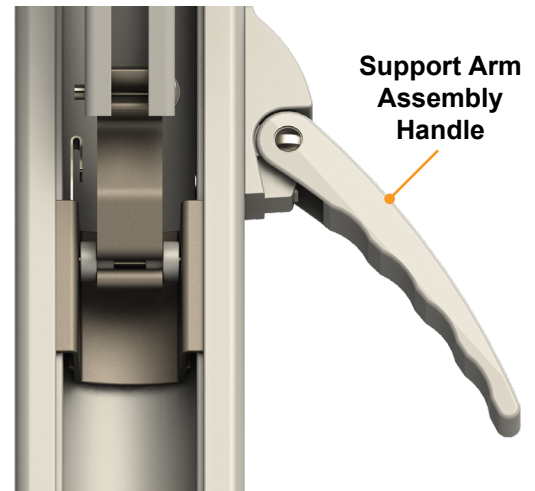
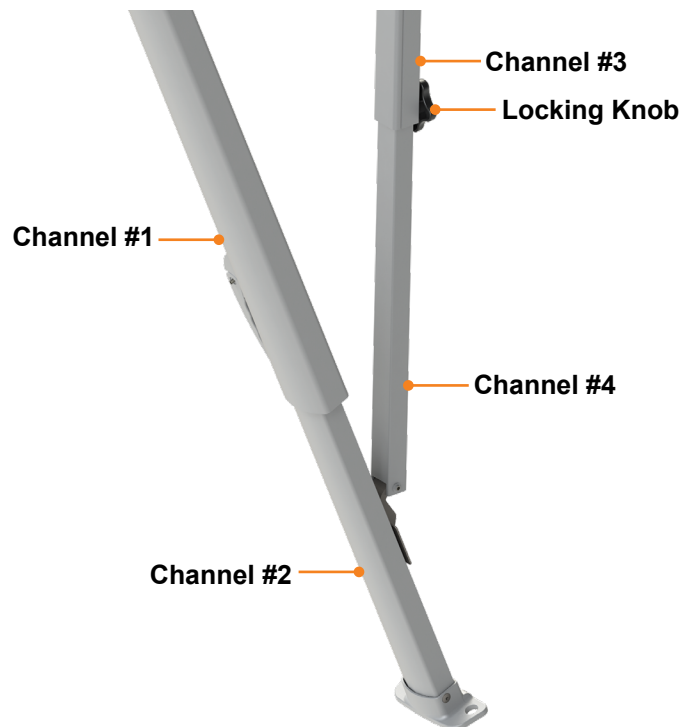
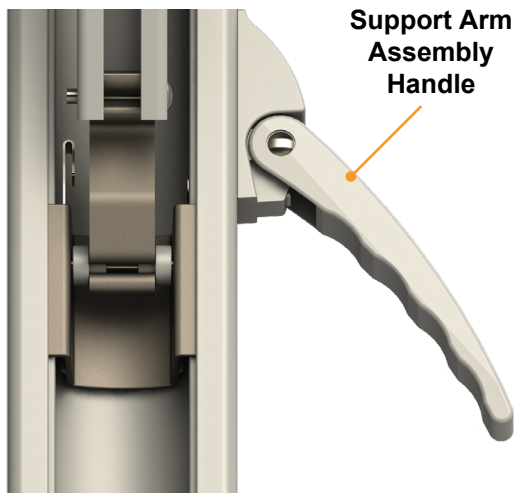
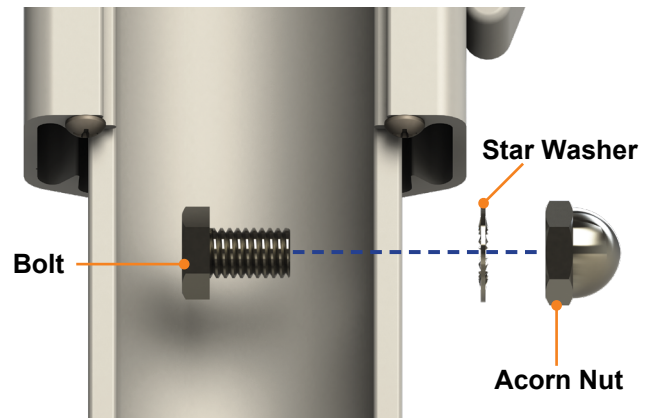

Fig.5
Fig.6
Fig.11
Fig.12
A. Open the support arm assembly handle (**Fig.5**) and slide the outer arm lower channel (**Fig. 6, Channel #2**) up or down to desired height.
B. Close the handle and slide the outer arm lower channel (**Fig. 6, Channel #2**) until the locking pin clicks into the nearest positioning hole.
B. Tighten the black locking knob on the mount arm upper channel (**Fig.6, Channel #3**).
NOTE: If adjustments are needed so the upper mounting brackets straddle the awning rail, loosen the black locking knob on the mounting arm's upper channel (**Fig.6, Channel #3**). Slide the mounting arm upper channel (**Fig.6, Channel #3**) up or down as needed over the mounting arm's lower channel (**Fig.6, Channel #4**).
- A. Open the outer arm handle (**Fig.11**) and slide the outer arm upper channel (**Fig.6, Channel #1**) up or down to the desired height.
- B. Close the handle and slide the outer arm upper channel (**Fig.6, Channel #1**) on the outer arm lower channel (**Fig.6, Channel #2**) until the locking pin clicks into the nearest positioning hole.
4. With a non-permanent method of marking, mark the position of the stop hole that is directly below the outer arm upper channel (**Fig.6, Channel #1**).
5. From the inside of the outer arm lower channel (**Fig.6, Channel #2**), insert a $\frac{5}{16}$ " bolt through the hole. Secure with a star washer and a $\frac{5}{16}$ " acorn nut using $\frac{1}{2}$ " socket and wrench (**Fig.12**).
NOTE: It may be necessary to lift the outer arm upper channel (**Fig.6, Channel #1**) to tighten the acorn nut.
1. Make sure the black locking knobs on the mount/rafter arm upper channels (**Fig.6, Channel #3**) are loosened. Pinch the travel locks together to release the outer arm from the mount/rafter arm.
6. Raise the outer arms to the desired height by releasing the support arm assembly handle and allow the outer arm upper channel (**Fig.6, Channel #1**) to slide onto the outer arm lower channel (**Fig.6, Channel #1**). After the desired height is reached let go of the support arm assembly handle to lock the arm at this position.
3. Lower the roll tube by holding the outer arm and releasing the support arm assembly handle on the side. Let the outer arm upper channel (**Fig.6, Channel #1**) slide down the outer arm lower channel (**Fig.6, Channel #2**) until it rests on the acorn nut. Repeat procedure on the other end.